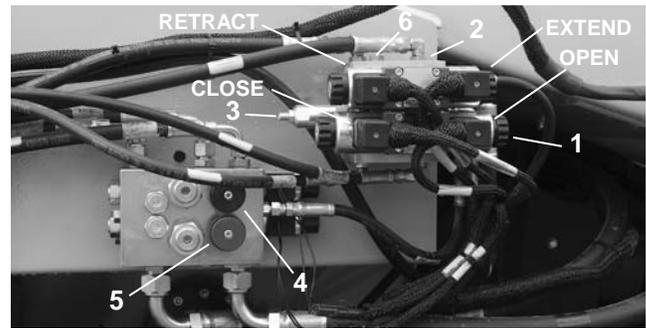

Figure 33. Left Hopper Valves
2) To adjust the speed, loosen the jam wheel on the spreadroll flow control valve located on the left side of the left conveyor (Fig 33 Ref 5). Turn the adjuster knob clockwise to decrease the speed of the spreadroll, or counterclockwise to increase the speed.